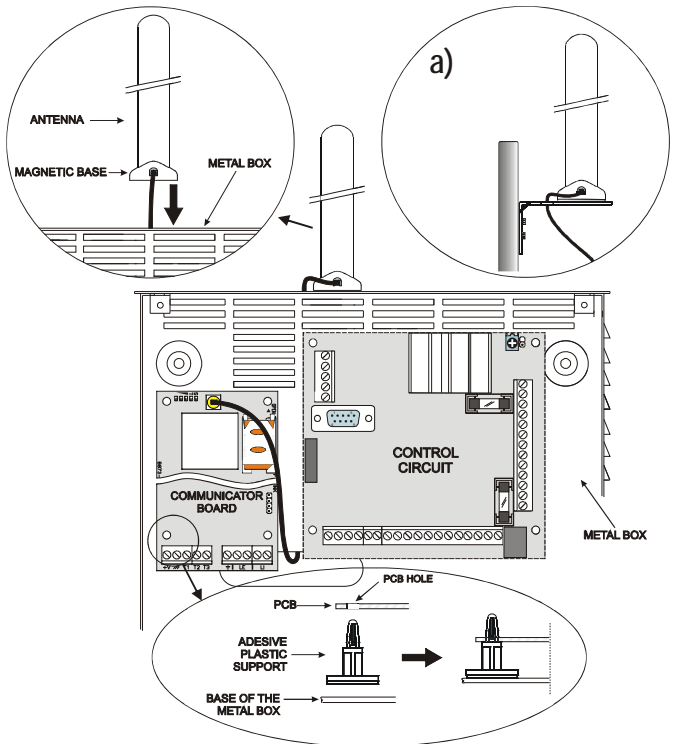

Fig. 2 - Fitting the Communicator board inside the control panel.
3. Position the 4 adhesive plastic supports [14] on the base of the metal casing, then fit the holes [7] on the Electronic board into the adhesive plastic supports, as illustrated in Figure 2.
- 4a. Position the antenna [1] on top of the metal casing (Fig. 2) so that the magnetic base [2] sticks to the surface. Feed the antenna cable through the cable feed opening in the metal casing. If necessary it is possible to use the metal bracket [13], (Fig.2a).